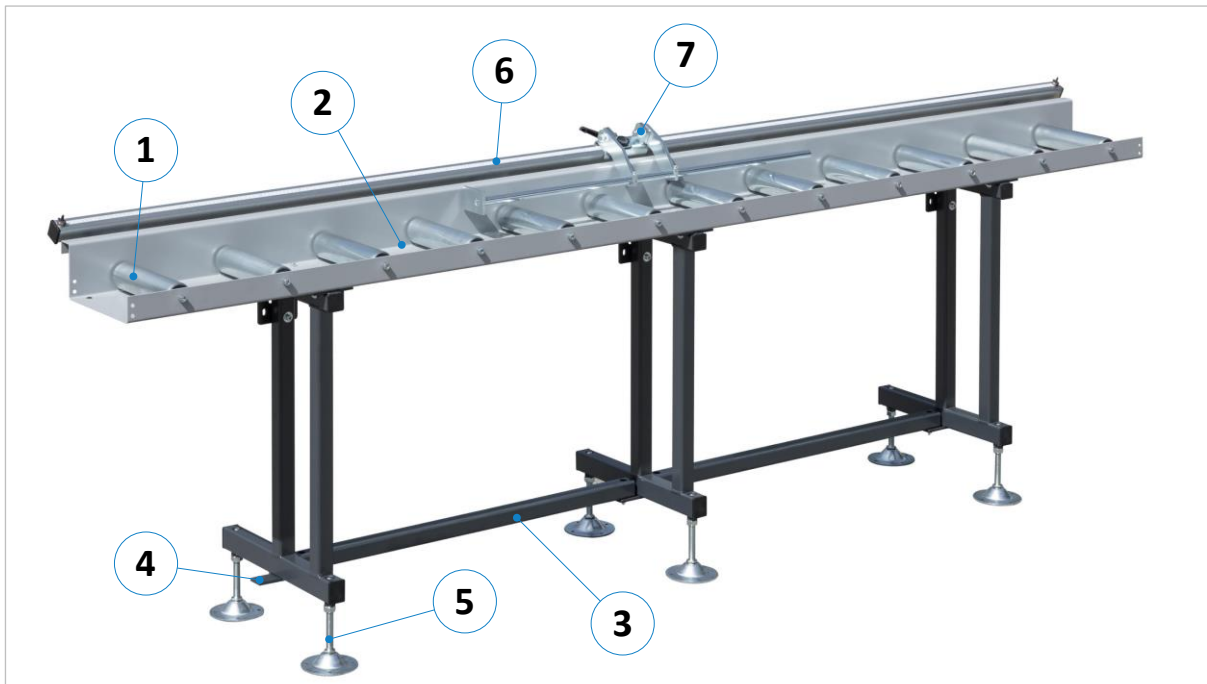

Figure 2: Roller conveyor EXAKT STANDARD B
The roller and measuring conveyors in the EXAKT STANDARD B version (see ⇒ Figure 2) are based on the roller conveyor basic version EXAKT STANDARD C (see section ⇒ 5.1). An additional feature of these roller conveyors is the attached C-profile guide (6) with glued-on dimension scale and the movable flip stop (7) with magnifying glass that can be manually positioned to the processing machine.